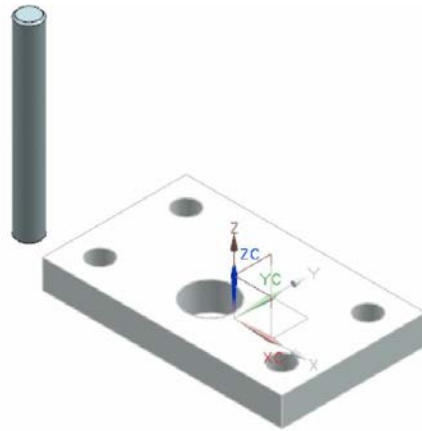

Figure 9-77 Guide Pillar after creating the chamfer feature
10. Select the top and bottom circular edges of the feature to apply chamfer on it. Next, choose the **OK** button from the **Chamfer** dialog box; the Guide Pillar is created, refer to Figure 9-77.